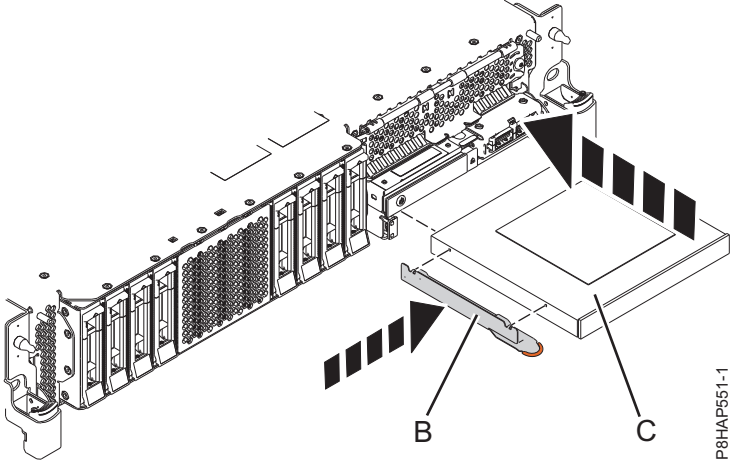
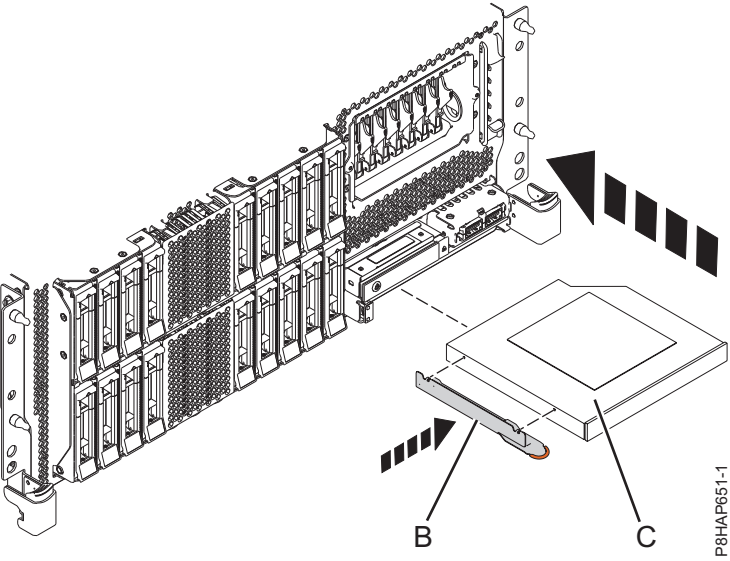
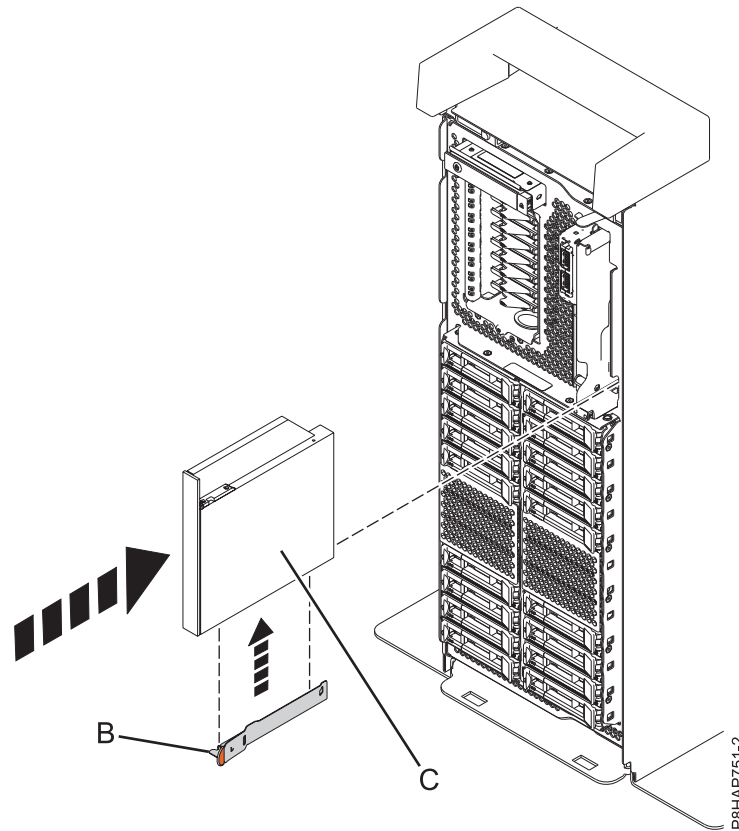

Figure 43. Replacing a Slimline media device in an 8284-21A or 8284-22A system
Figure 44. Replacing a Slimline media device in a rack-mounted 8286-41A or 8286-42A system
Figure 45. Replacing a Slimline media device in a stand-alone system
5. Retrieve the retaining-bracket (B) that you removed from the failed Slimline media device.
6. Attach the retaining-bracket (B) to the new Slimline media device, as shown in Figure 43 on page 48 for an 8284-21A or 8284-22A system, Figure 44 on page 48 for a rack-mounted 8286-41A or 8286-42A system, or Figure 45 on page 49 for a stand-alone 8286-41A system.
7. Align the Slimline media device (C) with the media bay, and support the bottom of the device as you slide it halfway into the system. Do not push the device in any farther, because you might install the device out of sequence.
For an 8284-21A or 8284-22A system, see Figure 43, for a rack-mounted 8286-41A or 8286-42A system, see Figure 44, or for a stand-alone 8286-41A system, see Figure 45 on page 49.